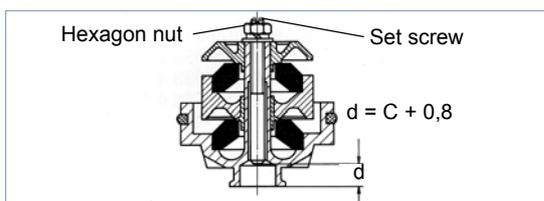

Fig. 5 Dimension d (Device with two rubber springs)
- Counter set screw by turning the hexagon nut (see fig. 5).
- The adjustment levels off also at devices with longer graduation travel (two rubber springs), see fig. 5.